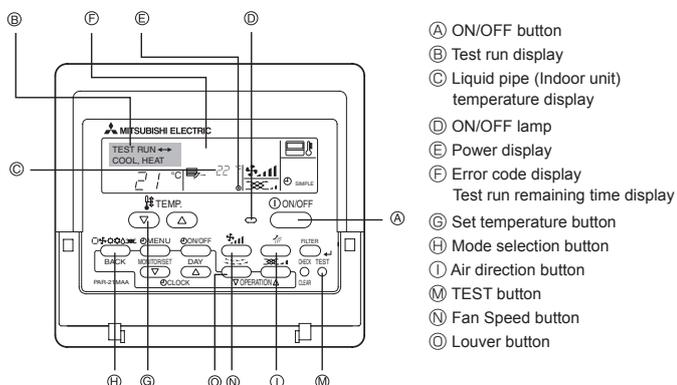

Fig. 6-1
- ① Refrigerant piping of the main unit
- ② Drain piping of the main unit
- ③ Initial position of the corner panel (logo attached).
- ④ Initial position of the levers on the intake grille.
6. Test run (Fig. 6-1)
Using wired remote controller (Fig. 6-1)